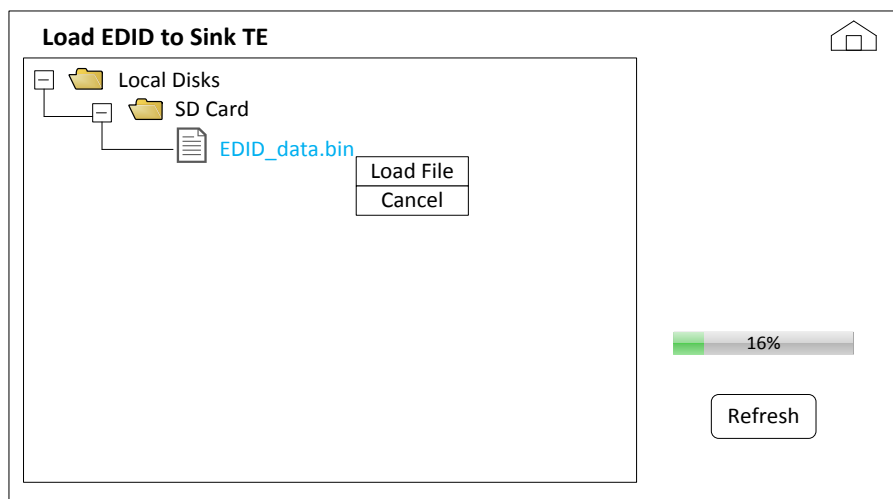

Figure 2.8. Load EDID to Sink TE Window
3. On the LCD touch screen (Figure 1.5), choose EDID Load. The Load EDID to Sink TE window appears. See Figure 2.8.